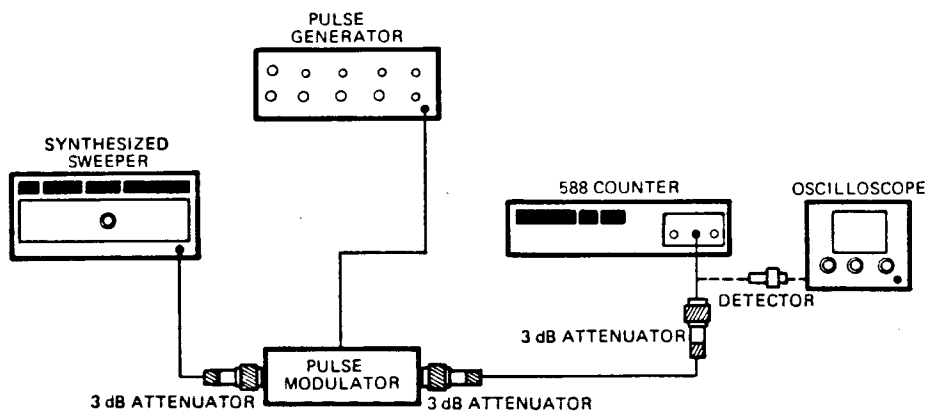

Figure 4-19. Band 2 Distortion Error Test Setup
1. Connect equipment as shown in Figure 4-19. The 3-dB attenuators should be at the IN and OUT ports of the pulse modulator, and at the input to the counter.